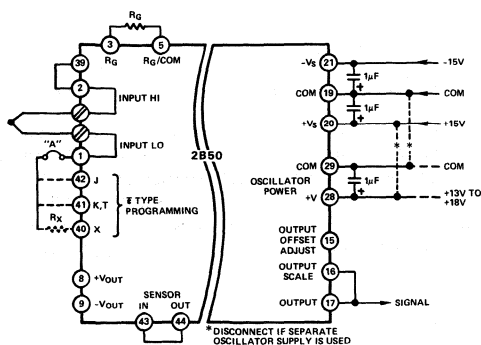

Figure 2. Basic 2B50 Application
The connections shown in Figure 2 are common to most applications using the 2B50, and, in many cases, will be all that is required.
Two sets of parallel thermocouple input connections are provided. The thermocouple input may be connected by screw terminals (Input+, Input -) or to terminal Pins 1(-) and 2(+) in cases where thermocouples are to be remotely terminated. The following sections describe a basic thermocouple application, as well as detail some optional connections to enhance performance in more demanding applications. Jumper A (Figure 2) is used to disconnect cold junction compensation circuitry during offset adjustments.
The gain of the 2B50 is set by a user-supplied resistor ( $R_G$ ) connected as shown in Figure 2. Gain will normally be selected so that the maximum output of the signal source will result in a plus full scale output swing. The resistor value required is determined by the equation:  $R_G = 200k\Omega/G-1$ .
2. Disconnect cold junction compensation circuitry by removing Jumper "A" (Figure 2).